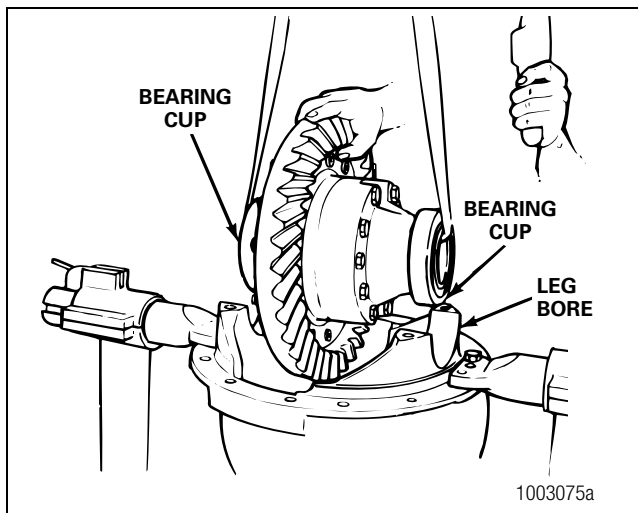

Figure 5.26
4. Install the bearing cups over the bearing cones that are assembled on the case halves. Figure 5.26.
5. Use lifting straps to lift the differential and ring gear assembly and install into the carrier. The bearing cups must be flat against the bores between the carrier legs. Figure 5.26.